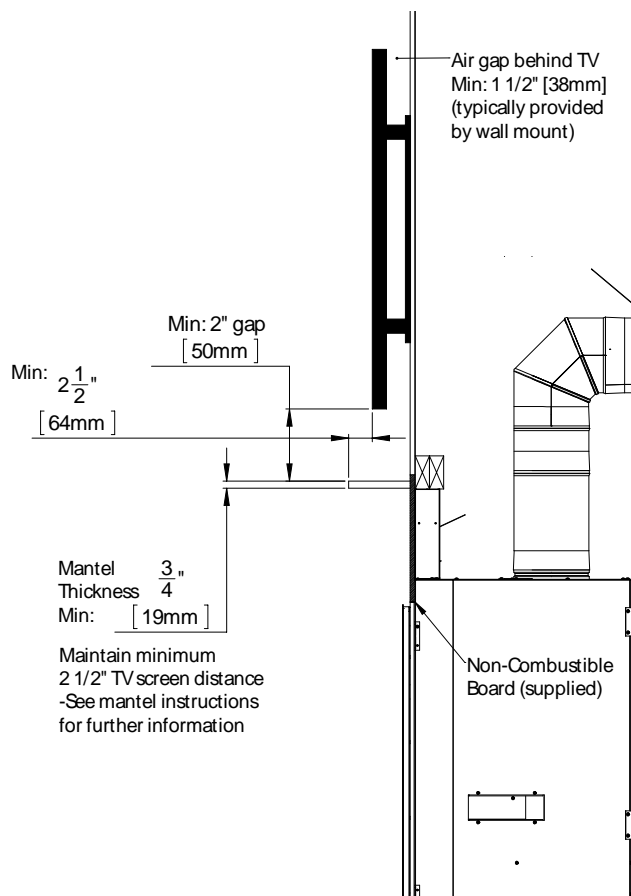

Figure 58: Minimum TV Install
**Mantel Only Installation:** Always maintain minimum clearances (see Figure 58). The total depth of the TV including the wall mount will determine the minimum allowable mantel depth.